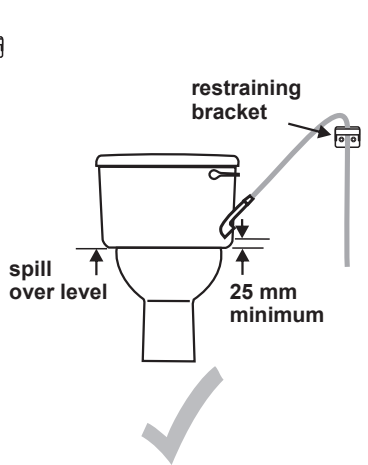

Fig 7 WC or bidet
- Hold the fixation bracket in the vertical position and place through the tap hole ensuring that the sealing washer remains above the platform as this acts as a watertight seal between the two surfaces, (Fig 7).